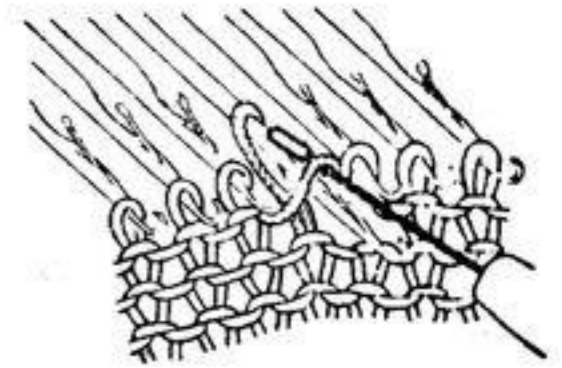

Fig. 48-3
3. Holding up the loose strand of yarn with the tool push the needle forward until the loop passes behind the latch and leave the loose strand in the hook. (Fig 48-3)